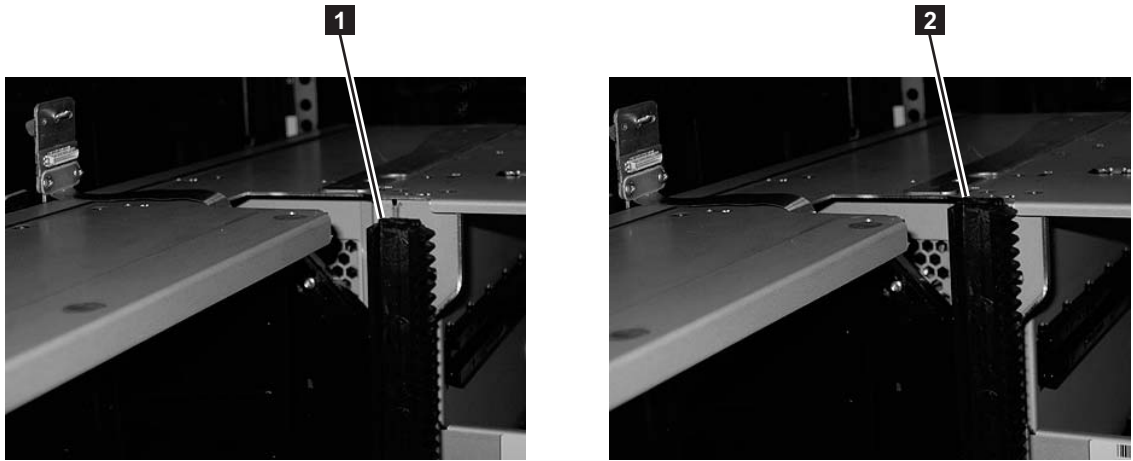

Figure 4-11. Gear racks positions
5. Ensure that the front and rear gear racks of both the control module and the expansion module are locked in the upper position (see **2** in Figure 4-11 on page 4-12).
3. Ensure that the front and rear gear racks of both the control module and the expansion module are locked in the upper position (see **2** in Figure 4-11).